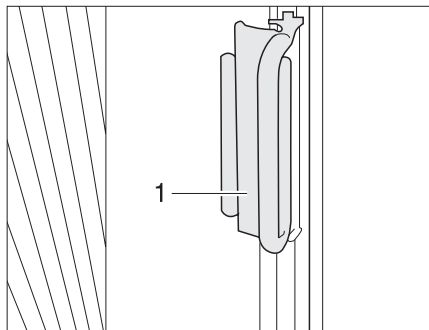

Fig. 17 Locking mechanism for Roman shades on driver's/front passenger's windows
- On the Roman shades for the driver's and passenger's window, push the handle (Fig. 17,1) onto the cap. The Roman shade is secured.